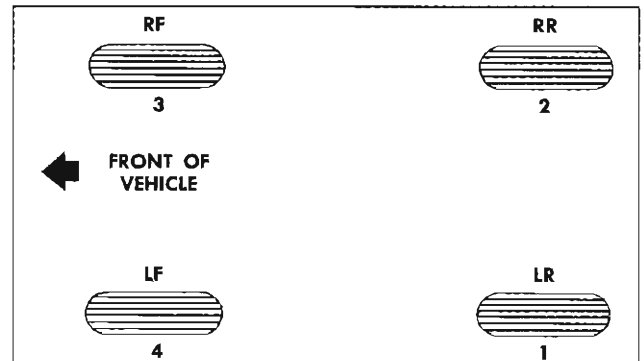

Fig. 3—Proper Bleeding Sequence
entered the system. The system must be absolutely free of air at all times. Bleeding should be done on the longest line first and the proper sequence to follow is left rear, right rear, right front and left front (fig. 3). Bleeding of brake system may be accomplished by one of two methods: either pressure or manual.
8. Repeat Steps 3 through 7 at the remaining wheel cylinders in the proper bleeding sequence (fig. 3). Disconnect bleeder equipment, remove Tool J-21479 and replace main cylinder cover.
8. Repeat Steps 2 through 7 at the remaining wheel cylinders in the proper bleeding sequence (fig. 3). Fill main cylinder and replace main cylinder cover.